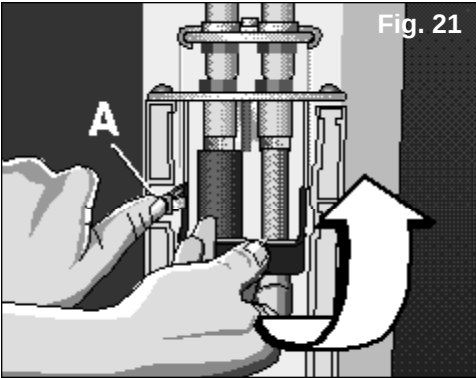

Fig. 21
- ❑ Keep tab **A**, which secures the position of the lever, pressed in. Pull it upwards (be careful with the spring of the lever), making sure that it remains at its maximum height, **Fig. 21**.
Make sure that the lever is secured by safety tab A, Fig. 21. Only then is the connection correct.